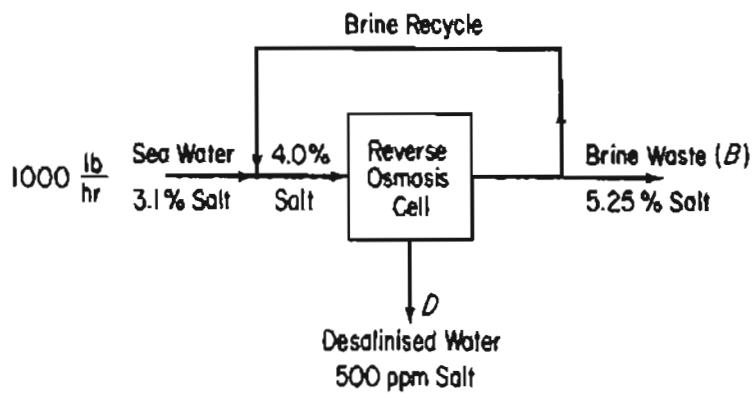

Figure P12.8
- ✓ **12.8** Sea water is to be desalinated by reverse osmosis using the scheme indicated in Figure P12.8. Use the data given in the figure to determine:
- The rate of waste brine removal (B)
- The rate of desalinated water (called potable water) production (D)